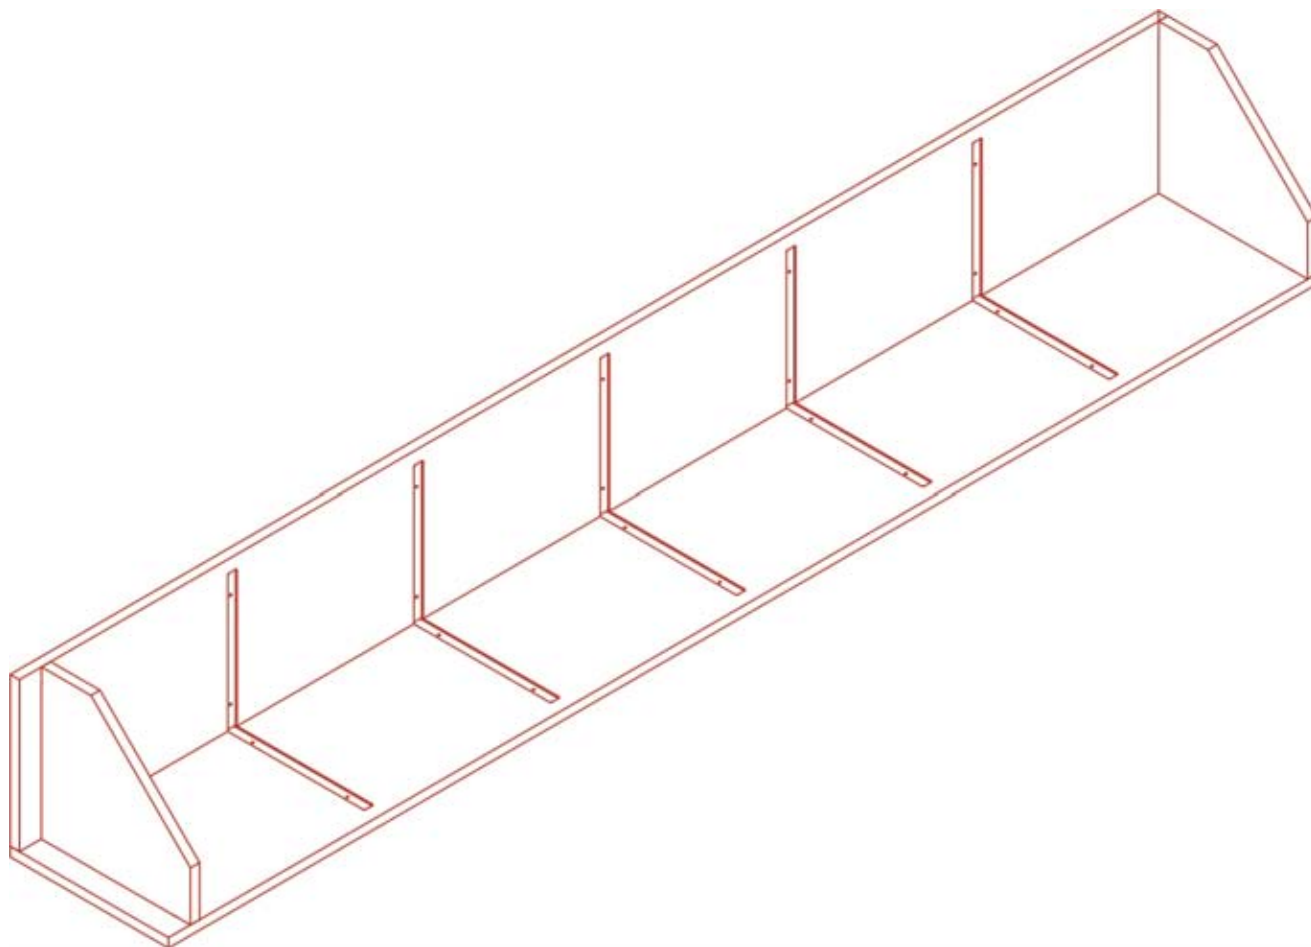

Figure 4
6. Pre-drill through the side panels and into the top and bottom panels (4 holes for each panel). Using the screws provided, fix each panel into place (**Figure 4**).